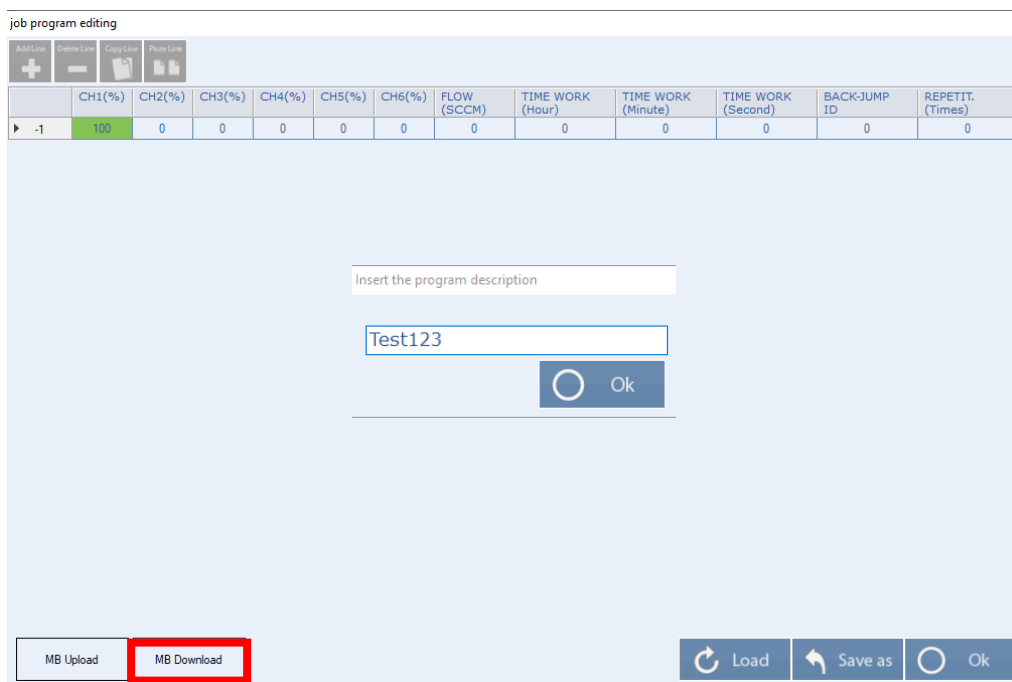

Figure 5-37
7. With the “**MB Download**” button is possible to download the program written on the instrument to use it standalone. (Figure 5-37)